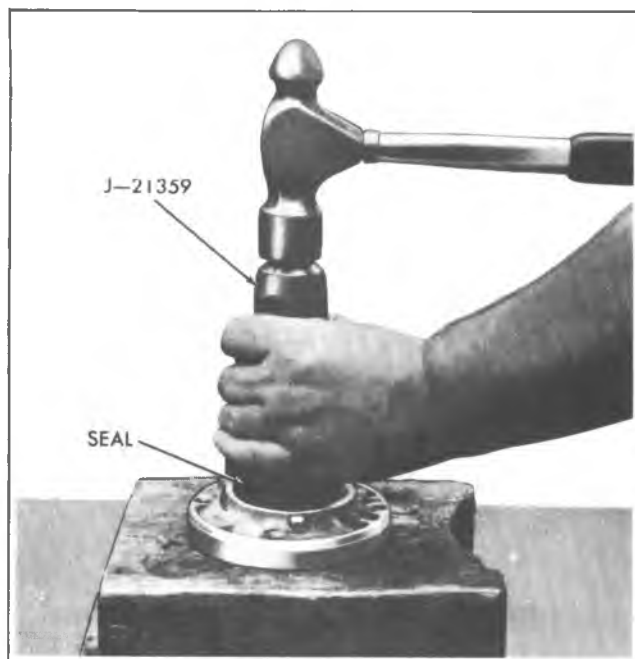

Fig. 7D-16S—Installing Input Shaft Bearing Retainer Seal
3. Position new seal to retainer and install using tool J-21359 (Fig. 7D-16S).